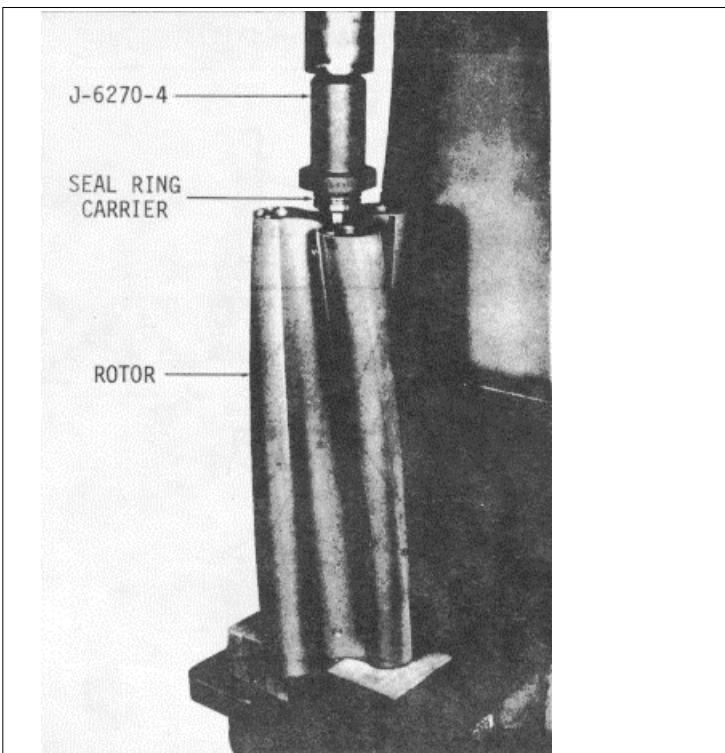

Fig. 10
- (1) Install the ring-type oil seal carriers, collars, seal rings and roller bearing inner races (front end of blower rotors only) on the rotor shafts and in the end plates as follows:
- (a) Support one of the rotor assemblies on wood blocks on the bed of an arbor press as shown in Fig.10.